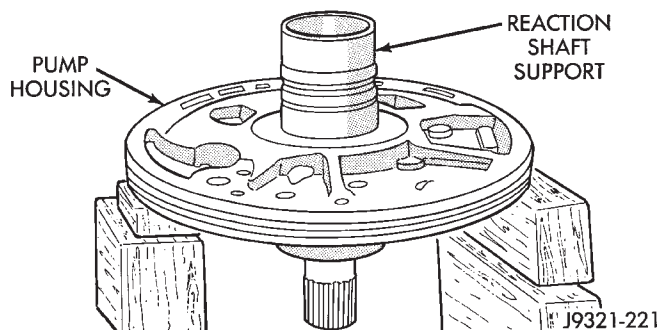

Fig. 55 Assembling Reaction Shaft Support And Pump Housing
(8) Install reaction shaft support on pump housing (Fig. 55).
(9) Align reaction support on pump housing. Use alignment marks made at disassembly. Or, rotate